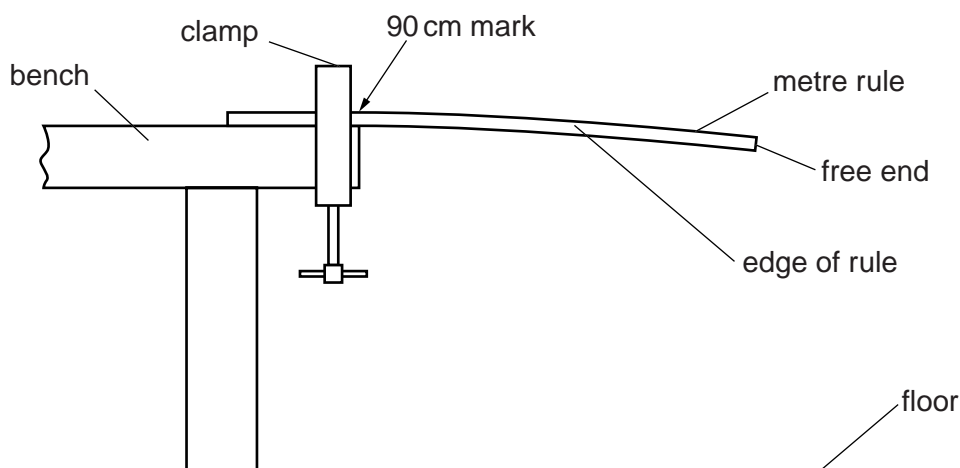

Fig. 4.1
1. One metre rule should be provided clamped with the 90 cm mark at the edge of the bench as shown in Fig. 4.1. The 0 cm mark of the scale should be at the free end of the rule and the scale of the metre rule must be facing upwards.
Check that the metre rule is clamped as shown in Fig. 4.1.